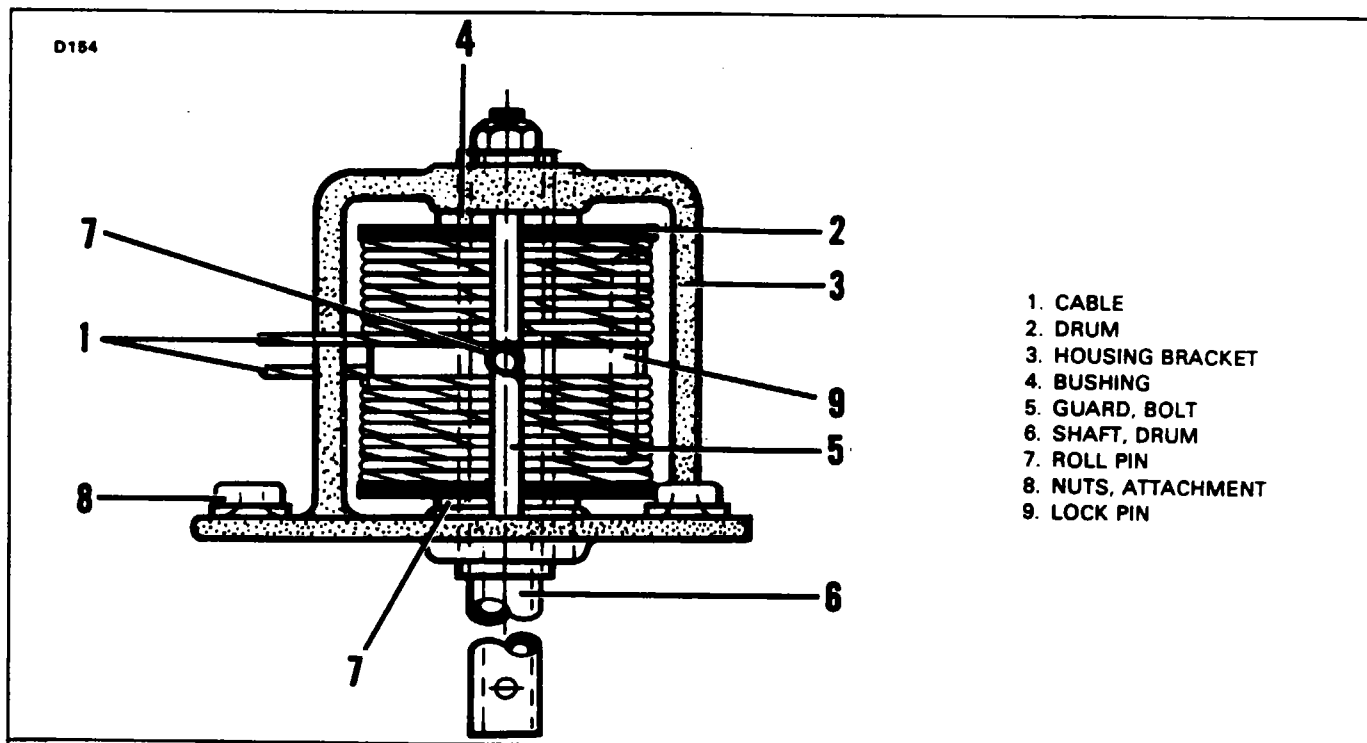

Figure 27-21a. Wrapping Elevator Trim Drum (Control Pedestal)
WRAPPING ELEVATOR TRIM DRUM (CONTROL PEDESTAL). (Refer to Figure 27-21a.)
8. Insert the drum in the housing bracket, position the drum and route the cables from the assembly as shown in Figure 27-21a.